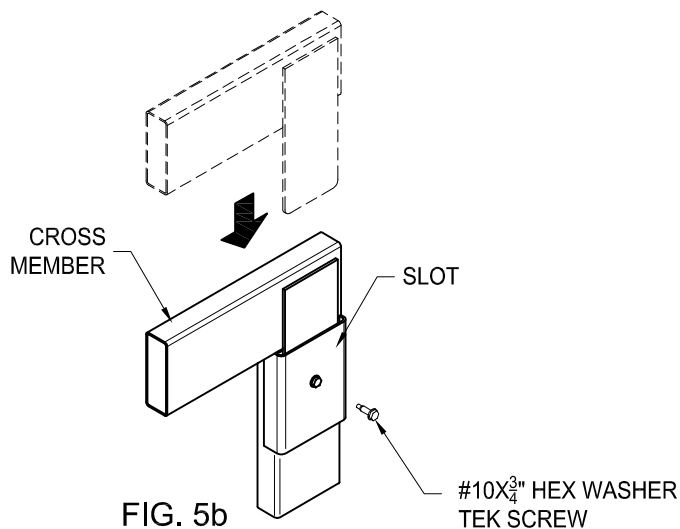

FIG. 5b
- * Secure tabs with $\frac{1}{4}$ " X $\frac{3}{4}$ " hex washer tek screw (fig. 5b).